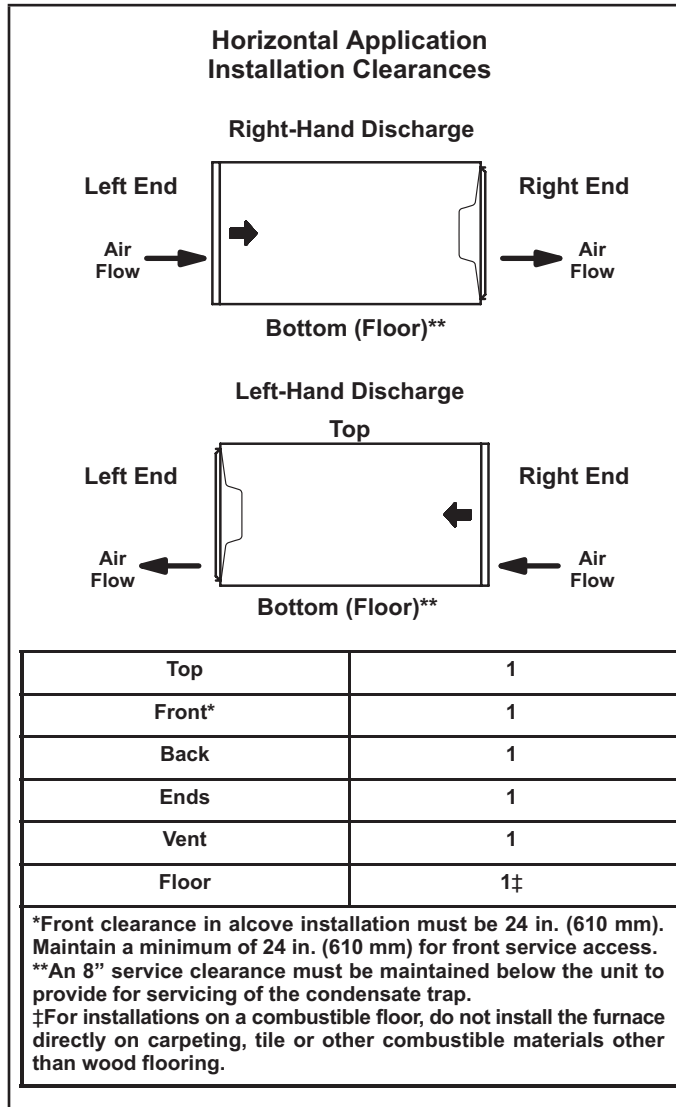

FIGURE 11
The SL297UHNV furnace can be installed in horizontal applications with either right- or left-hand air discharge. Refer to figure 11 for clearances in horizontal applications.
- 1 - Select location for unit keeping in mind service and other necessary clearances. See figure 11.